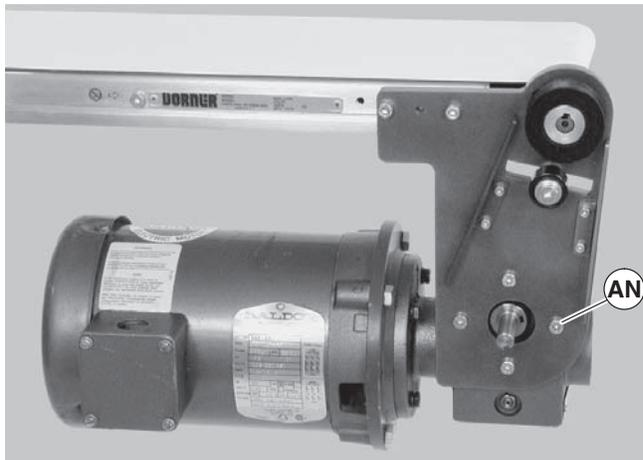

Figure 27
- Remove four (4) gear reducer mounting screws (Figure 27, item AN). Remove gearmotor.